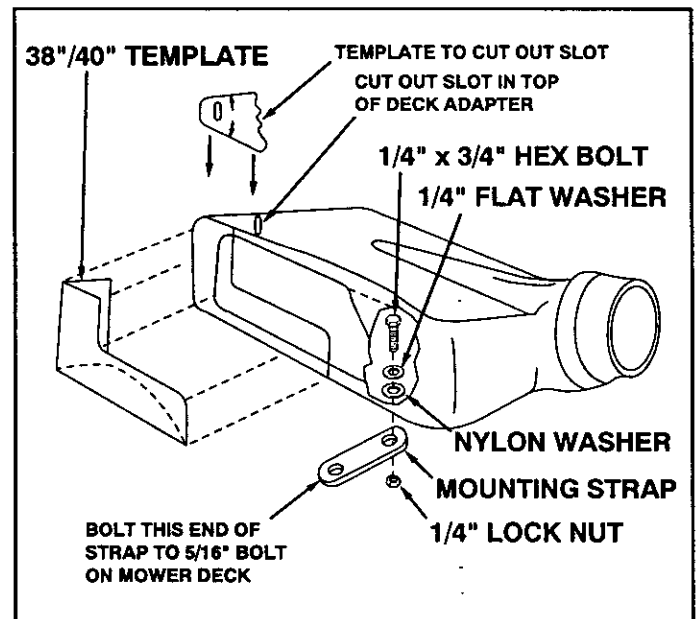

FIGURE 31
- Cut out two templates and place on deck adapter as shown in figure 31. Tape smaller one on top and larger one on the side and bottom. After they are in place, carefully mark around the templates, then cut out adapter to obtain correct opening.
- Bolt end of mounting strap to the 5/16" bolt on the mower deck. The other end of the strap will bolt to a hole in the deck adapter, which must be drilled. Position the adapter on the deck, then drill a 5/16" hole in the bottom of the adapter that will align with the hole in the strap. Fasten the adapter to the strap using a 1/4" x 3/4" hex bolt, 1/4" flat washer, nylon washer and 1/4" hex nut. See figure 31.